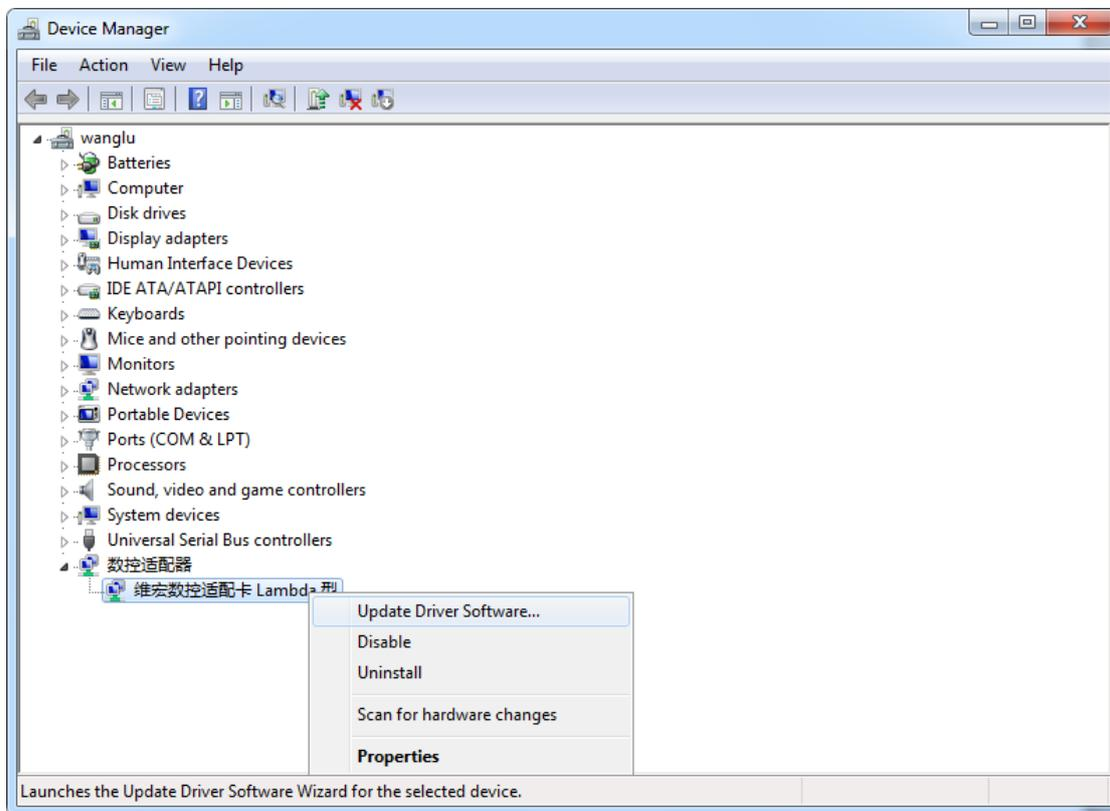

Fig. 1-2 Update Driver Software
- 1) Right click **Computer**, select **Properties**, and then click **Device Manager**. Click **数控适配器** and select **维宏数控适配器 Lambda 型**, right click on it and select **Update Driver Software...**, as shown in Fig. 1-2.